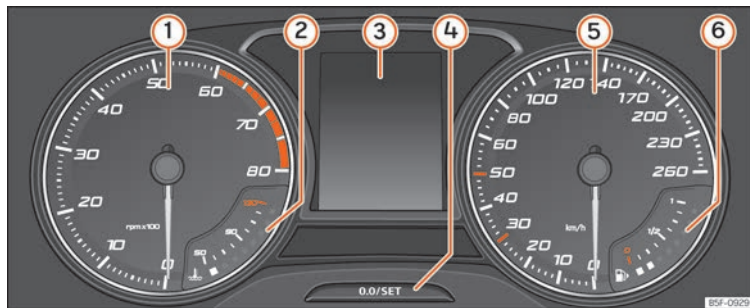

Fig. 126 Instrument panel, on dash panel.
Details of the instruments »» **Fig. 126:**
- Briefly press the button **0.0/SET** »»» Fig. 126 ④ to reset the trip recorder to 0.
- Keep the button **0.0/SET** ④ pressed for about 3 seconds and the previous value will be displayed.